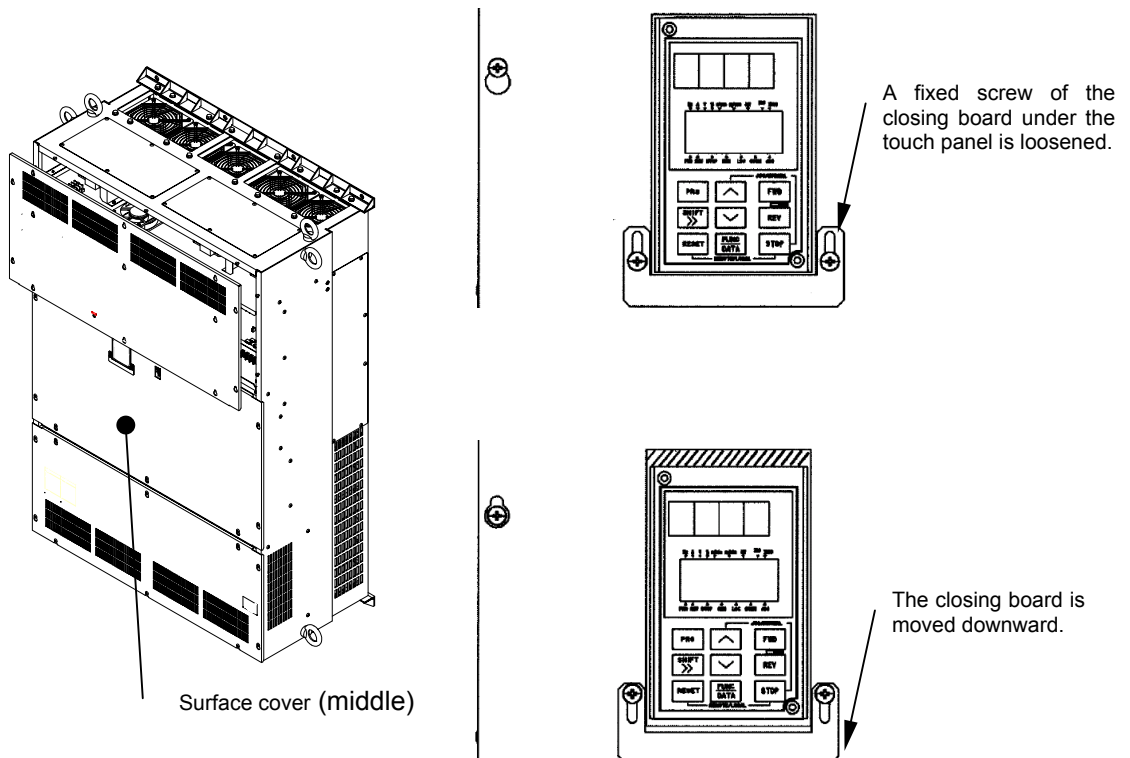

Figure 1-3-3 Removal of Surface Cover (500kW or higher)
(2) Removal of KEYPAD Panel
After removing the face cover in step (1), loosen the KEYPAD panel fixing screws. Remove the KEYPAD panel as shown in Figure 1-3-3.